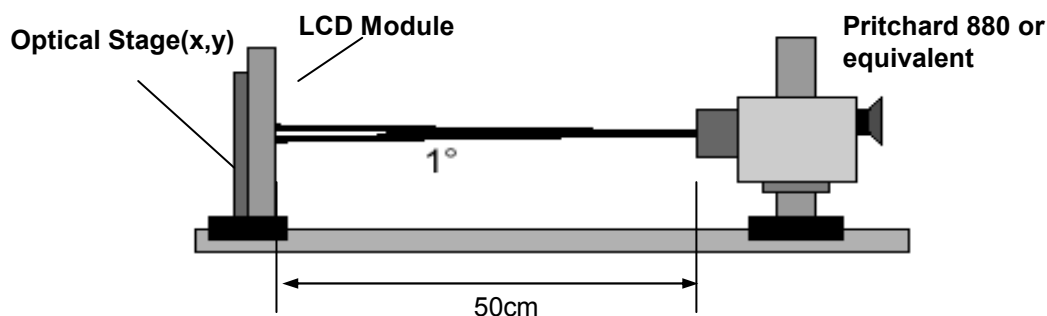

FIG. 1 Optical Characteristic Measurement Equipment and Method
Optical characteristics are determined after the unit has been 'ON' and stable in a dark environment at $25 \pm 2^\circ\text{C}$. The values are specified at 50cm from the LCD surface at a viewing angle of Φ and θ equal to 0° . FIG. 1 shows additional information concerning the measurement equipment and method.
2. Surface luminance are determined after the unit has been 'ON' and 1 Hour after lighting the backlight in a dark environment at $25 \pm 2^\circ\text{C}$. Surface luminance is the luminance value at center 1-point across the LCD surface 50cm from the surface with all pixels displaying white. For more information see the FIG. 1.